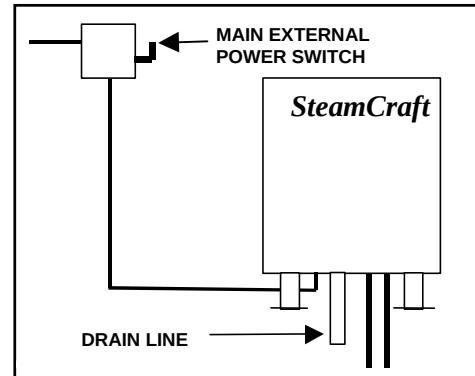

Figure 2-1 Main External Power Switch
4. Refer to Figure 2-1. Use main external power switch to turn on electric power to steamer. Steam generators will immediately start blowdown cycles. Blowdown cycle lasts 3 minutes.